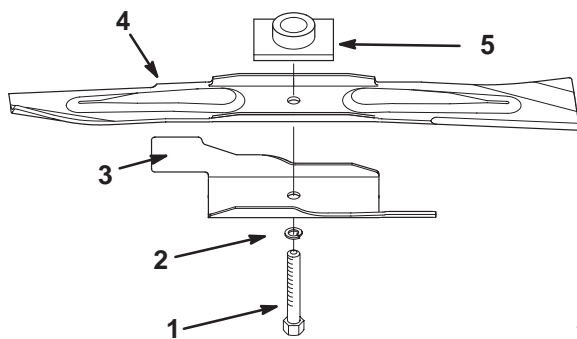

Figure 19
Grasp the end of the blade using a rag or thickly padded glove. Remove the blade bolt, the lock washer, the accelerator, and the blade (Fig. 19).
1. Install the blade onto the spindle and the blade driver with the curved blade tips pointing toward the lawn mower deck and the blade driver nesting in the recess of the blade (Fig. 19).
2. Install the accelerator, the lock washer, and the blade bolt (Fig. 19).